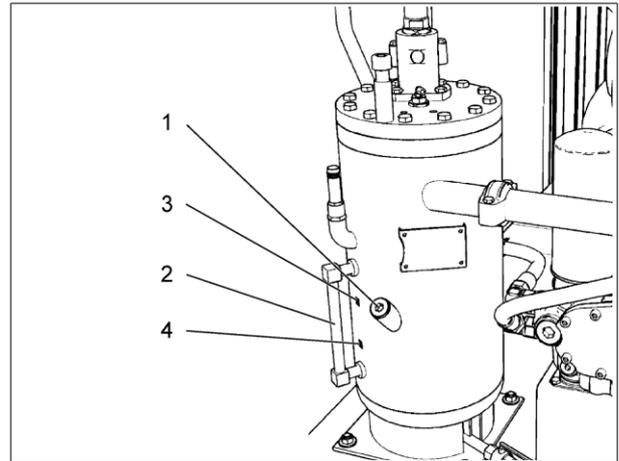

Fig. 14
- The oil level should be checked at each pause in operation and at regular intervals using the oil level gauge on the pressure reservoir (-2- Fig. 14).
- The oil level must lie between the "maximum oil level" (-3- Fig. 14) and "minimum oil level" (-4- Fig. 14) marks on the oil gauge.
- Close the oil filler cap (-1- Fig. 14) firmly.
- Check the oil level in the pressure reservoir (also see Section 7.4 Fig. 14)